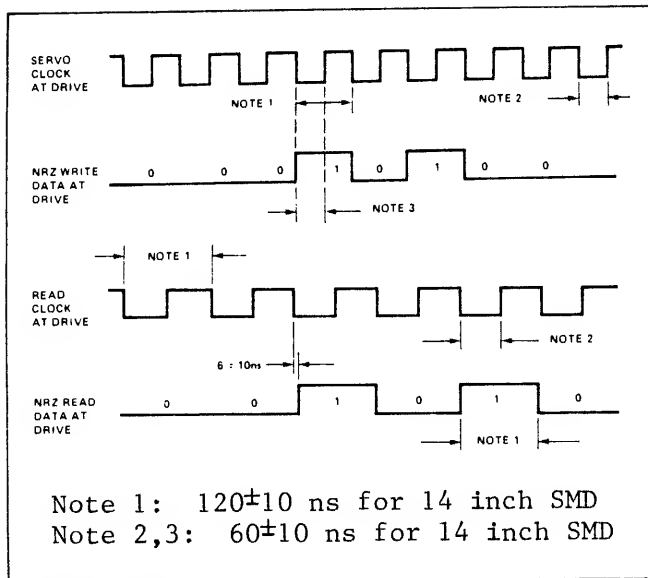

Figure 11.5-7 NRZ Data and Read Clock Timing
8. Data and Clock Lines (see Figure 11.5-7)
derived clock signal that is synchronous with the recovered data, as shown in Figure 11.5-7. Read Clock is in phase sync with the Read Data within 8 microseconds after the leading edge of Read Gate.
The Write Clock signal from the controller to the drive must be synchronized with the NRZ write data, as shown in Figure 11.5-7. The Write Clock is the Servo Clock retransmitted to the drive during a write operation. Write Clock need not be transmitted continuously, but must be transmitted during, and at least 250 nanoseconds prior to Write Gate.